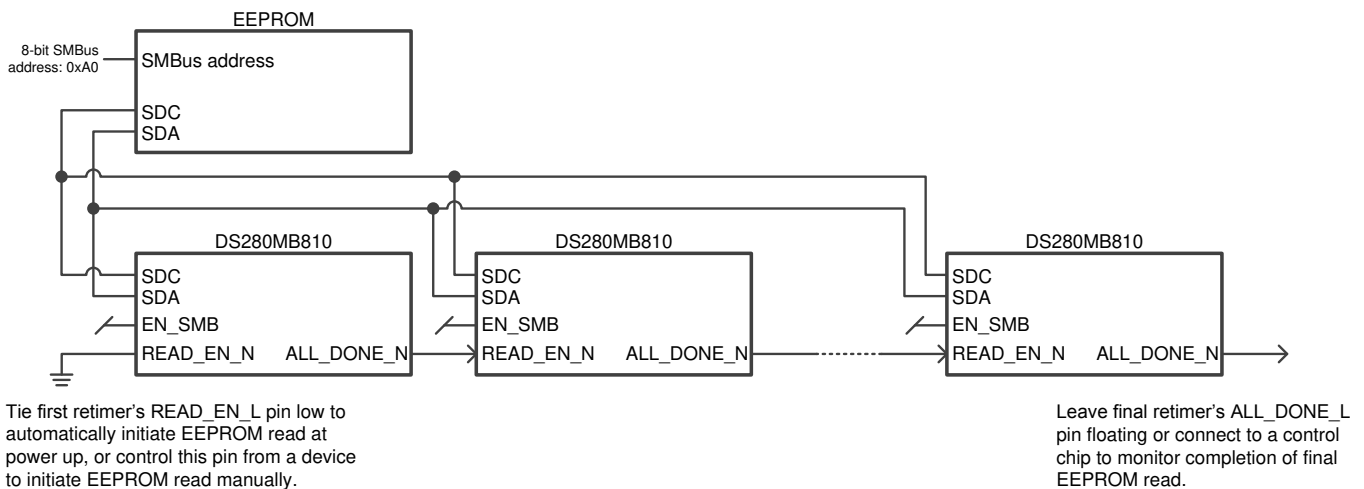

Figure 6. Example daisy chain for multiple device, single EEPROM configuration
- If multiple DS280MB810 devices share a single EEPROM, connect the ALL_DONE_N output of the first device to the READ_EN_N input of the next device, as shown in Figure 6.